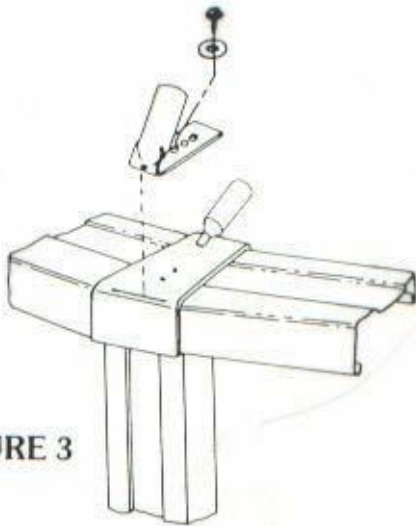

FIGURE 3
A. Attach the mounting brackets as shown in Figure 3 on the top cap of each vertical support. The mounting bracket should be located near the outside edge of the top cap, centered on the cap, but not extending past the outside edge. Mark on the top cap, with an indelible marker, the location of the two outer holes on the mounting bracket, leave the center hole open. See Figure 3.
B. You must drill through the top cap and the rail to reach the metal plate on the top of your vertical support. Drill your holes with the 3/16" drill bit. (Or the appropriate bit for the anchor being used!) **DO NOT LET THE SHAVINGS FALL INTO THE POOL WHILE DRILLING.** It is best to have a vacuum ready and running while you drill to take away the shavings. See Figure 3.